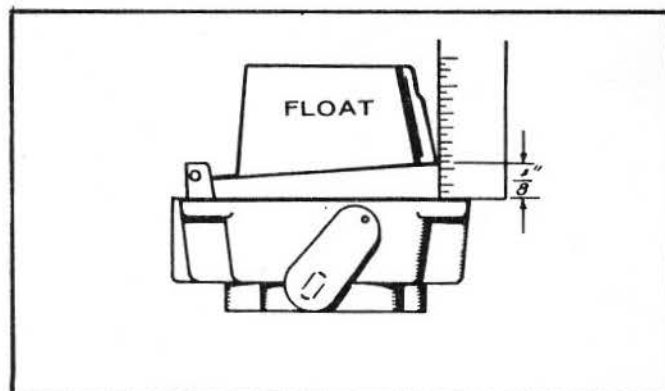

FIGURE 6. FLOAT ADJUSTMENT
2. Invert float assembly as shown in Figure 6.
3. If it is necessary to reset the float level, bend the float tangs near the pin to obtain a $1/8$ " clearance (Figure 6).